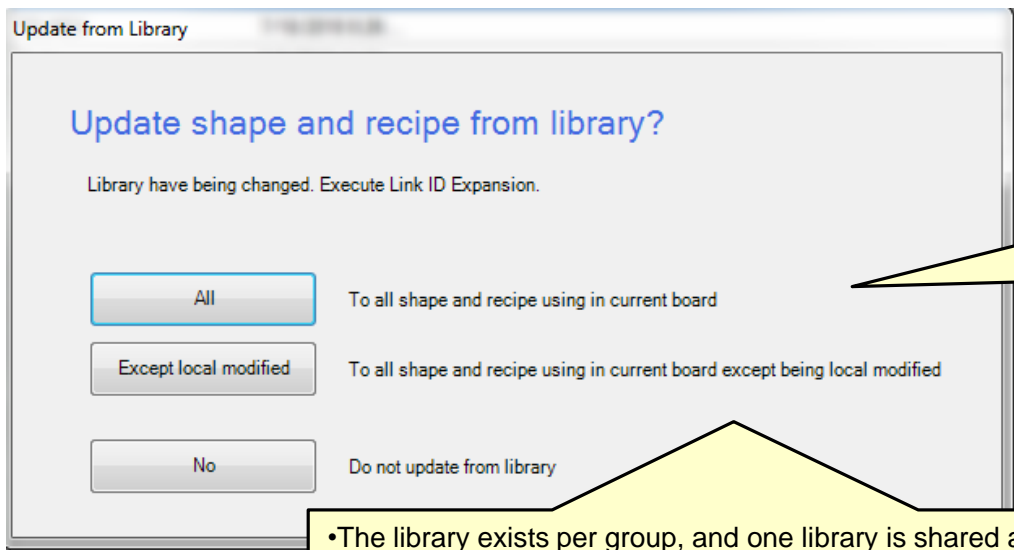
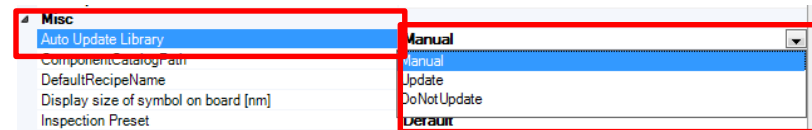

FIG 1-5
FIG 1-6
If an inspection data is changed, the dialog shown in Figure 1-5 appears.
•This window (FIG 1-5) appears when you enabled the settings on Figure 1-6 in the feature (manual) and every model change will ask the same question Update shape and recipe from library?